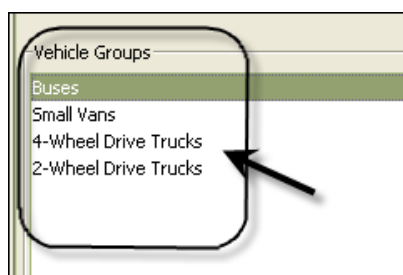

FIG. 153
4. The name(s) of the vehicle group(s) you created in Step 3 (above) is added to the list of vehicle groups that is displayed on the Vehicle Groups side of the screen. In FIG. 153 four vehicle groups are listed: Buses, Small Vans, 4-Wheel Drive Trucks and 2-Wheel Drive Trucks.